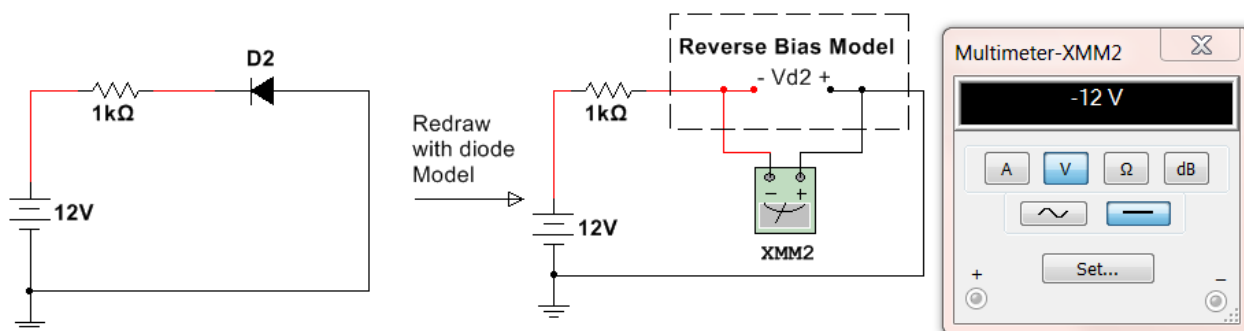

Figure 6.5: Circuit for Example 6.2
- $V_{D2} = -12 \text{ V}$  is verified in Multisim in Figure 6.5.